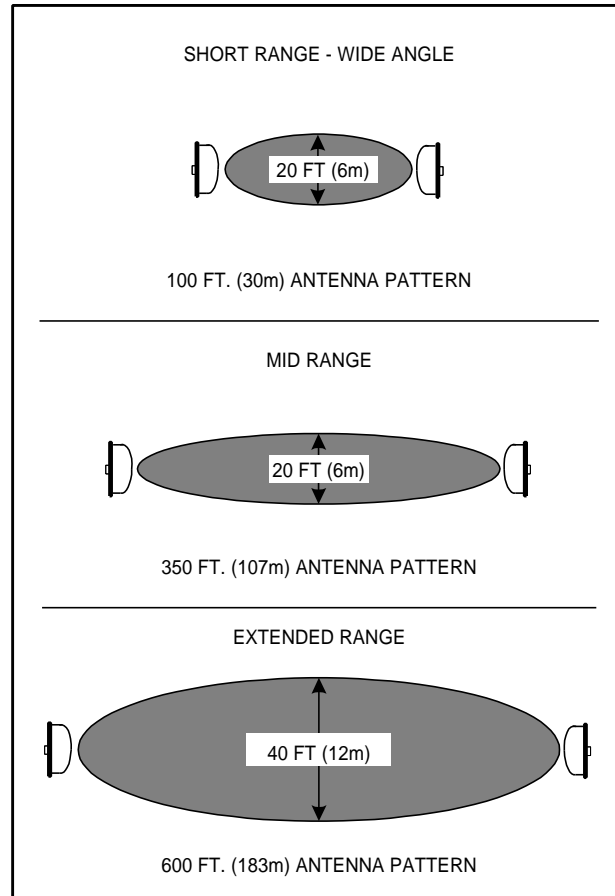
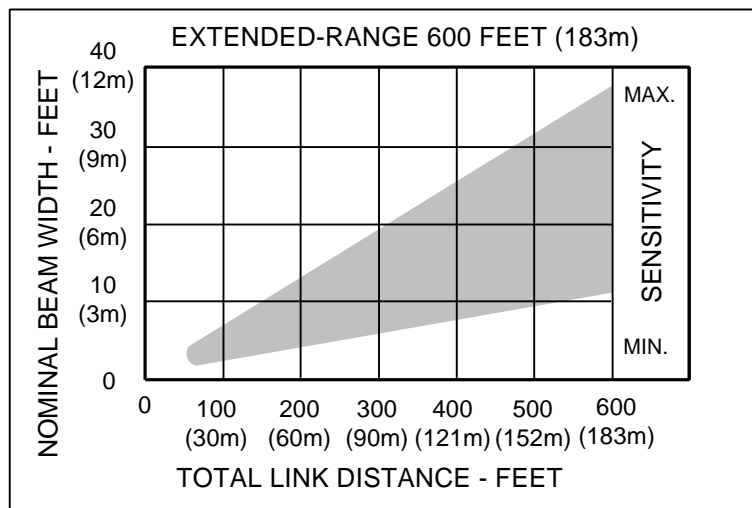

Figure 2 – Typical Maximum Horizontal Patterns
Figure 3A – Pattern Width vs Link Distance and Sensitivity
Typical maximum width protection patterns of Model 300B are shown in Figure 2 for mounting height of 2.5 feet (.76m) above smooth earth. Maximum width is attained when Transmitter-Receiver distance is maximum and Receiver “Sensitivity” control is set to maximum. Figures 3A, B & C illustrate how pattern width varies with Transmitter-Receiver distance and sensitivity setting for each protection pattern element. Actual patterns will vary somewhat with site topography and surface condition. Generally, lower mounting height or rougher surface will increase pattern width.
The received audio signal is amplified by an automatic gain control (AGC) preamplifier enabling the preamplifier output to be held to a constant level regardless of Transmitter-Receiver distance (distance must be within maximum distance of Figure 2). Preamplifier output is applied to a phase-locked loop (PLL) detector that operates as a narrow bandpass filter at one of the modulation frequencies. Receive channel is selected by means of PCB jumper to match modulation frequency of Transmitter while rejecting spurious signals and other Transmitters.
Whenever signal exceeds either threshold voltage, an alarm is generated. Gain of signal amplifier may be adjusted with "Sensitivity" potentiometer on circuit board to modify protection patterns per Figures 2 and 3. Signal bandwidth, affecting Model 300Bs' response to fast moving targets, may be set to "Fast" or "Slow" with PCB jumper.
- 1.2 Beam Diameter: 2 feet (.6m) to 40 feet (12.2m) depending on Link length, antenna pattern element and “Sensitivity” setting per Figures 3A, 3B, and 3C.
The clear area required for a Model 300B installation depends upon the distance to be covered by the link. Protection patterns for various conditions are given in Figures 2 & 3. In each installation the clear area must be at least as large as the protection pattern.